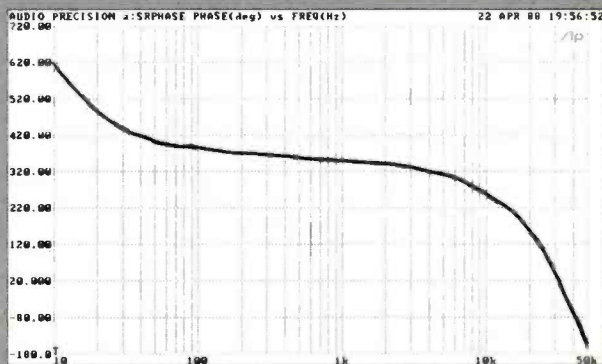
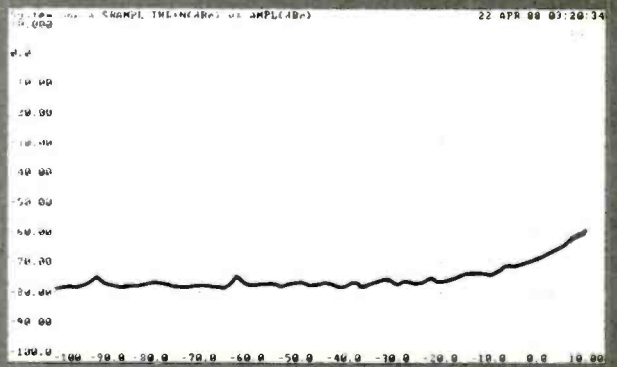

Figure 5B. Phase response of Dolby SR, no ATR.
Figure 5D. Noise characteristic of Dolby SR, no ATR.
**Dolby SR**—Dolby SR is the most recent analog noise reduction system developed, and it performs well, as shown in Figures 5A and 5C. The only question that might be raised is one of phase response (See Figure 5B.) with a somewhat broad swing, which is evidence of some complex processing going on within. (It was a bit difficult to interpret the data of this test without having schematics to evaluate.) The noise-reduction characteristics of Dolby SR are quite strong. Like the A-type, Dolby SR relies on masking only at amplitudes above the nominal operating level and has a surprisingly low, flat noise floor. (See Figures 5D and 5E.)